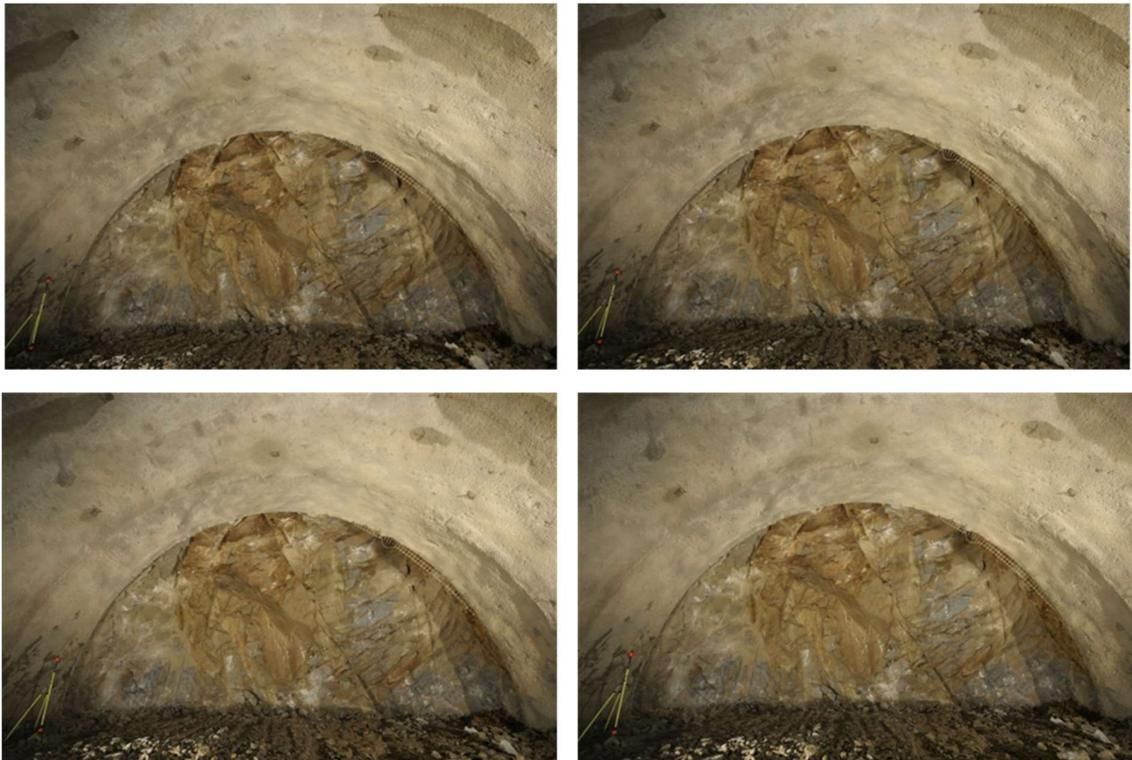

Figure 18: Four slightly converging photos from different positions
6. Take four slightly converging photos from left to rights or vice versa (Figure 18):